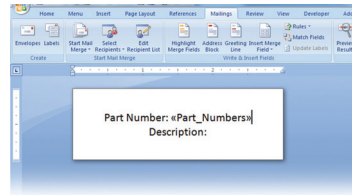

FIGURE 12 Word document ready to receive data from Excel Column A.
- J. Select **Column A header**. A **Column A space-holder** (<<Part\_Numbers>>) appears next to the Column A header (Fig. 12).